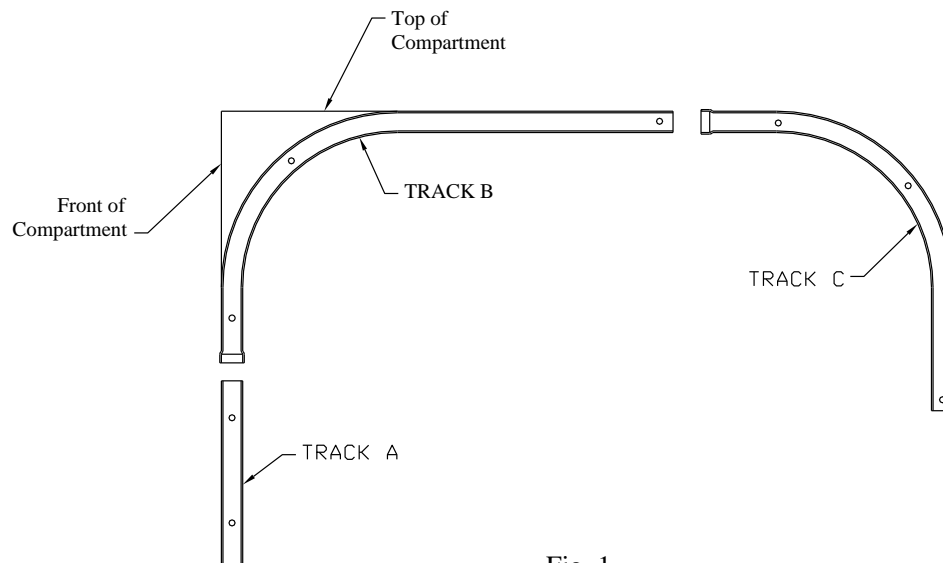

Fig. 1
- Place the straight section of “B” in the flange on the “C” track pieces. They will be labeled track “B” and “C” as shown in Fig. 1.